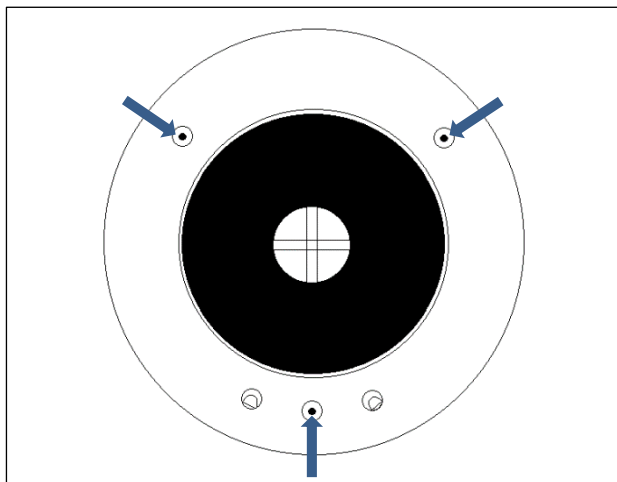

Fig.7
13. This will reveal the pre-formed holes through the mounting plate (see Fig 7. below). Dry fit internal valve in the duct and flush to the wall. Ensure the grille is flush and level.